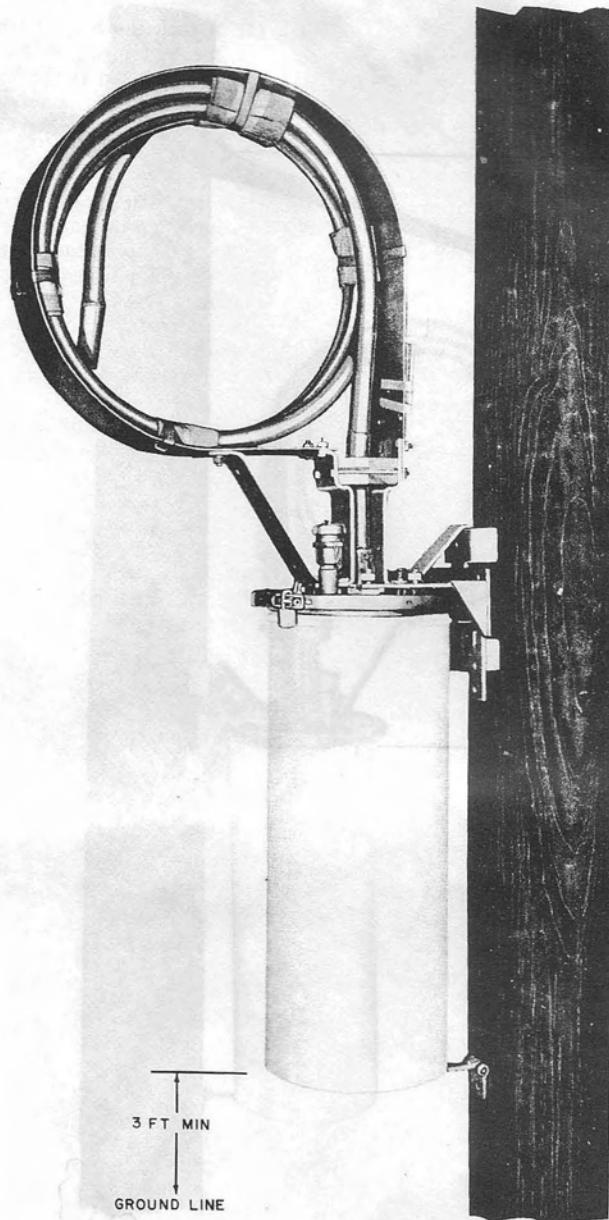

Fig. 12—Apparatus Case—Ground Level
- 3.09 Figure 12 illustrates the pole mounted apparatus case at ground level.